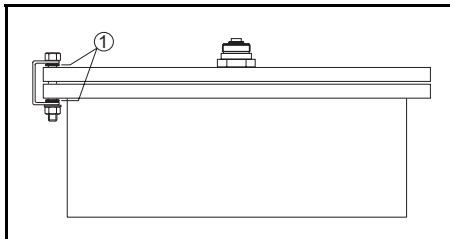

Figure 7.9 Example of manhole ground connection
To ensure a good grounding between the manhole cover and the tank, a copper strip must be placed under one of the flange bolts. A shark ring (1) should be placed between flange and strip (see figure 7.9).